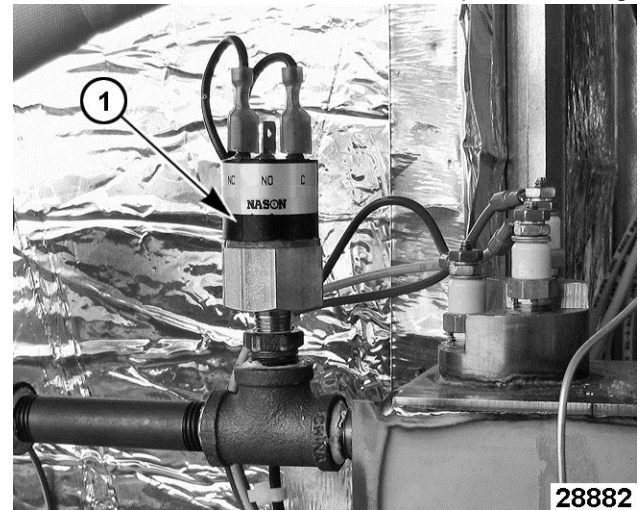

Fig. 72
3. Locate pressure switch [1] Fig. 72 in the piping that extends from the water level probe housing.